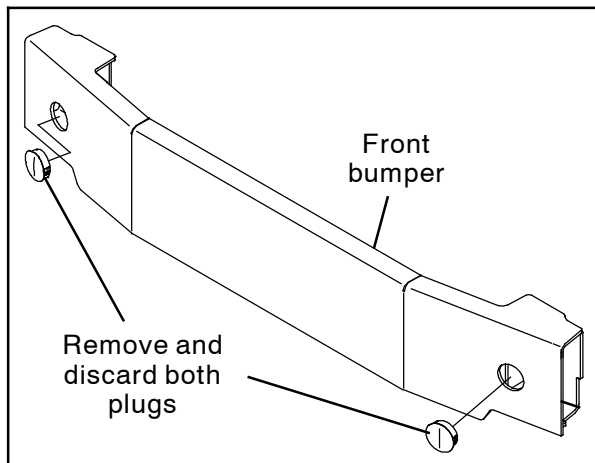

FIG. 3
1. Remove both plugs from the front bumper and discard the plugs. (Fig. 3)